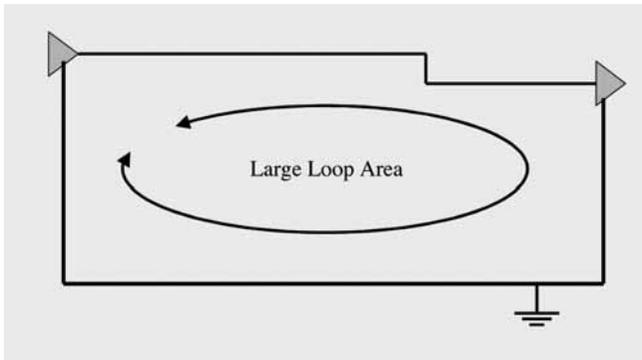

Figure 1. Example of Single Sided PCB Routing with Large Loop Area for Signal Current
One and two-layer boards present a definite challenge for EMC design. While 'generic' EMC design rules claim this stack-up is not recommended, it is often selected for considerations other than EMC, such as low cost, etc. With this stack-up, there are normally no solid planes and all signals, power and returns (sometimes called 'ground'1) are routed as traces. While the signal speeds on these boards are normally less than might be expected on the multilayer boards with solid planes, they can still cause EMC problems. The main EMC concern in this design strategy is to keep the loop area for the signal current as small as possible and not allow large loop areas for current as illustrated in Figure 1. Remember, the current must always return to its source, and the return path creates part of this total loop.
The loop shown in Figure 1 is not a simple rectangle, and so there is no simple formula to calculate the strength of the radiated fields; however, if we examine the formula for an electrically small simple loop we can see the direct relationship of the radiated fields and the loop area. Equation 1 [1] gives the electric field strength in the far field for a small loop antenna. The electric field strength increases/decreases in direct proportion to the area (A) of the loop.